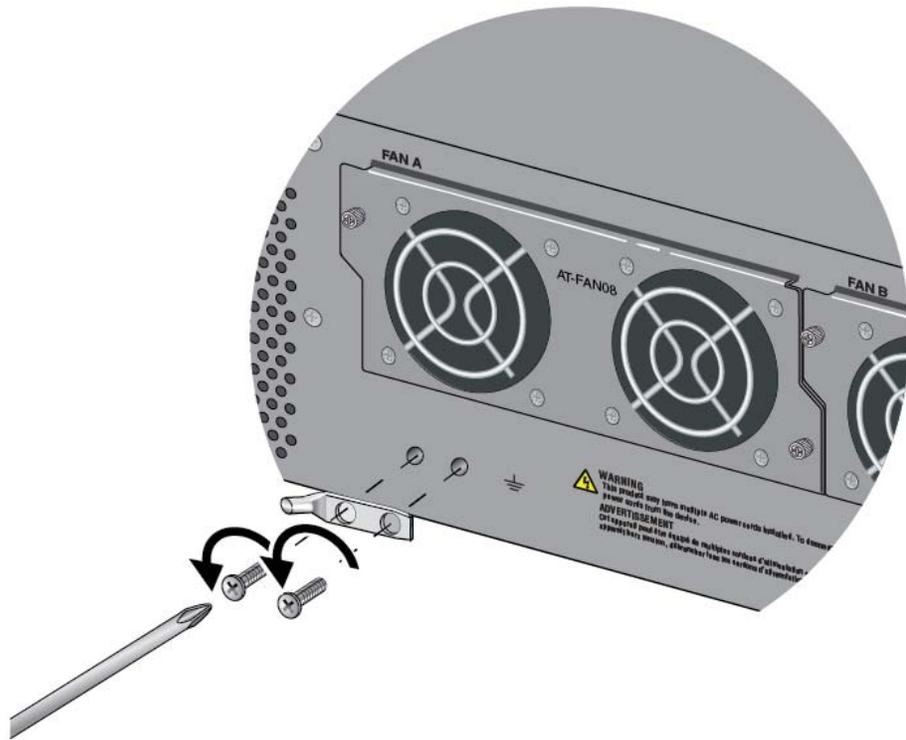

Figure 44. Removing the Grounding Lug from the Chassis
2. Use a #2 Phillips-head screwdriver to remove the two screws that secure the grounding lug to the rear panel of the chassis. Refer to Figure 44 on page 99.